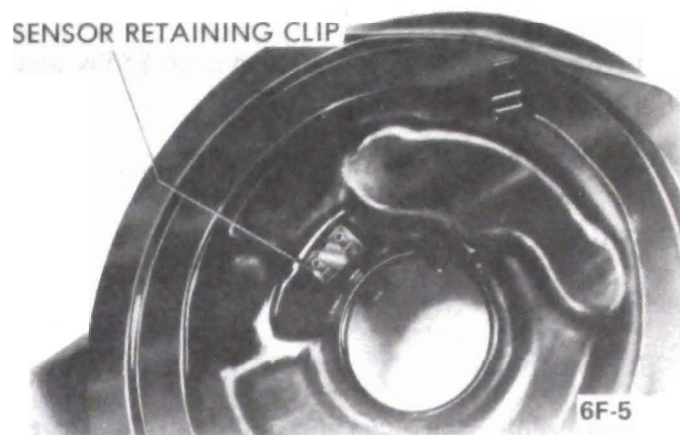

Figure 6F-5 - Replacing Sensor Assembly
See Figure 6F-5.
5. Install sensor retaining clip. Meanwhile supporting sensor at "B" around the outside rim to prevent damage to the temperature sensing spring. See Figure 6F-4.